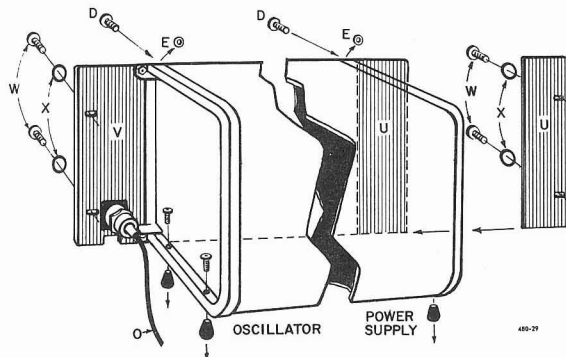

Figure 2-9. Rack installation of oscillator with power supply.
h. Remove the outside pairs of front-panel screws (D) and spacers (E) from both instruments.
i. Attach panels (U) and (V) as shown in Figure 2-9. Install the clips in place of the spacers (E) and fasten them with the screws (D).